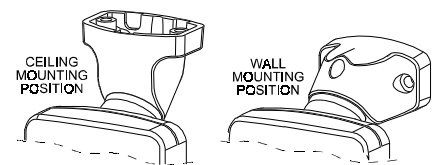

Figure 7. Wall and Ceiling Positions
- Rotate the bracket to the desired position (refer to Figure 7) but do not yet tighten the screw fully.